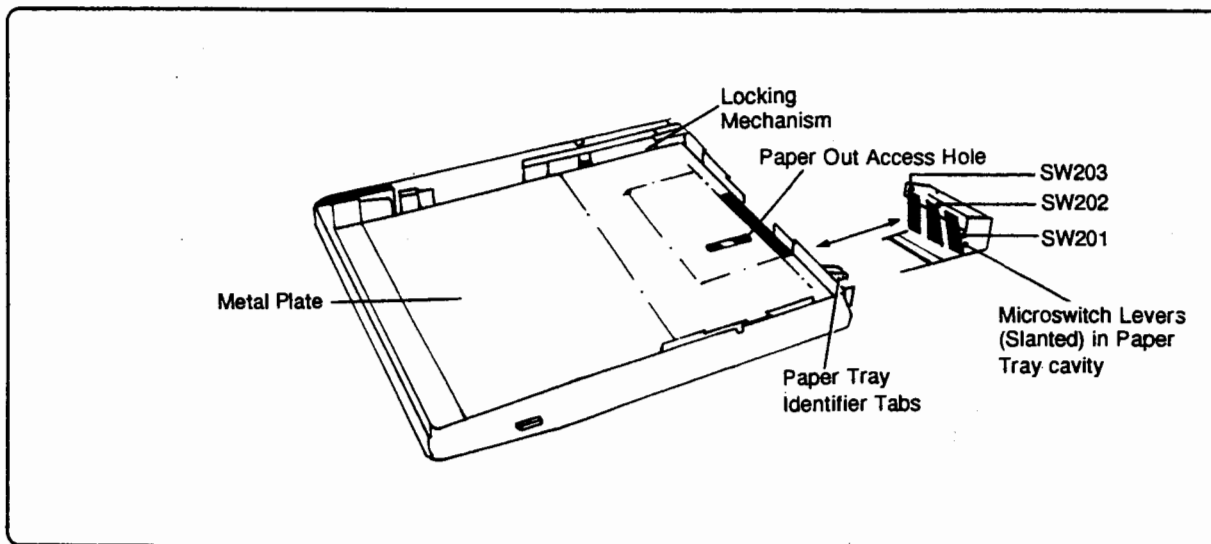

Figure 7-5. Tray Size Sensing Microswitches Locations
3. Are any of the tray identifier protrusions broken on the paper tray?	Inspect the tray for damage. If damaged, replace the tray. (See Figure 7-5.)
2. With one hand, PUSH on the left-most paper tray identifier switch (SW203), being careful not to push the Sensing Arm flag at this time. (See Figure 7-5.)
4. With one hand, PUSH on the left-most tray identifier switch (SW203), being careful not to push the Sensing Arm Flag at this time (see Figure 7-5). If the pickup roller begins to move at this point:
The paper tray size microswitch levers are located on the lower right side of the paper tray cavity. The microswitches indicate the presence and size of the installed paper tray to the DC Controller. The switches are activated by protrusions located on the rear of the paper tray. When the tray is inserted, the protrusions activate (engage) the microswitches (refer to Figure 7-5 below.)
3. With the other hand, PUSH switch SW203 (the left-most microswitch) while observing the Control Panel display. (See Figure 7-5).